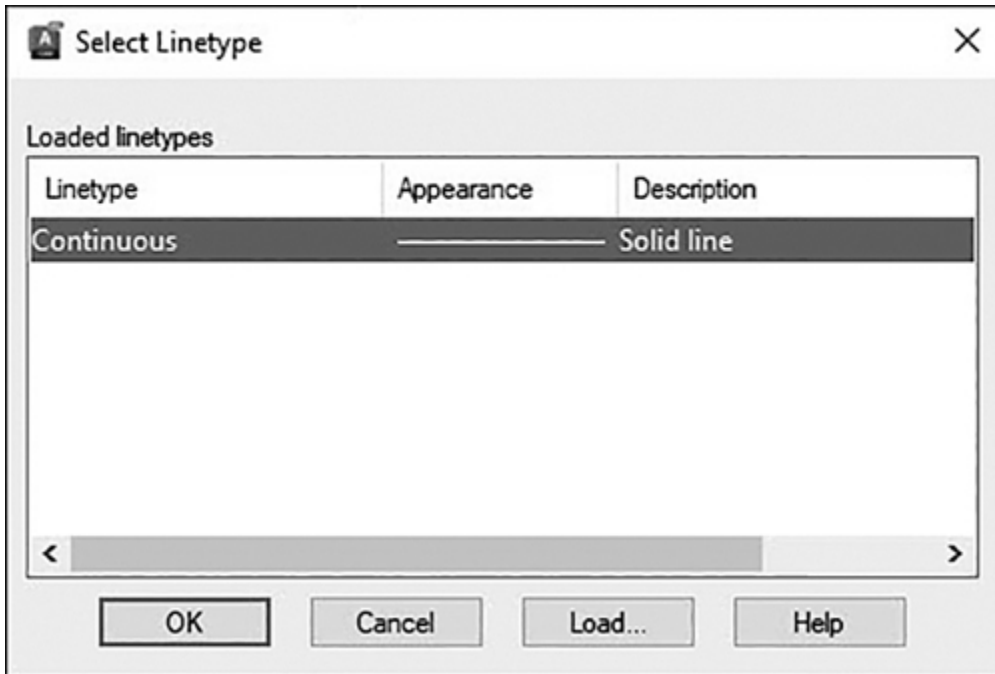

Figure 2-23
- 7** Choose the **Linetype** setting for the **Center** layer. This displays the **Select Linetype** dialog box (see Figure 2-23).